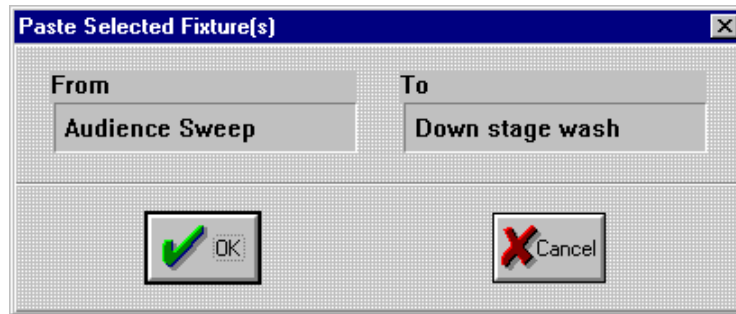

Figure 6.7. Paste Selected Fixture(s) Dialogue Box
5. Press the <COPY> key in the MEMORY group. This brings up the **Paste Selected Fixture(s)** dialogue box. The Steps' names will appear in the dialogue box. Refer to Figure 6.7.